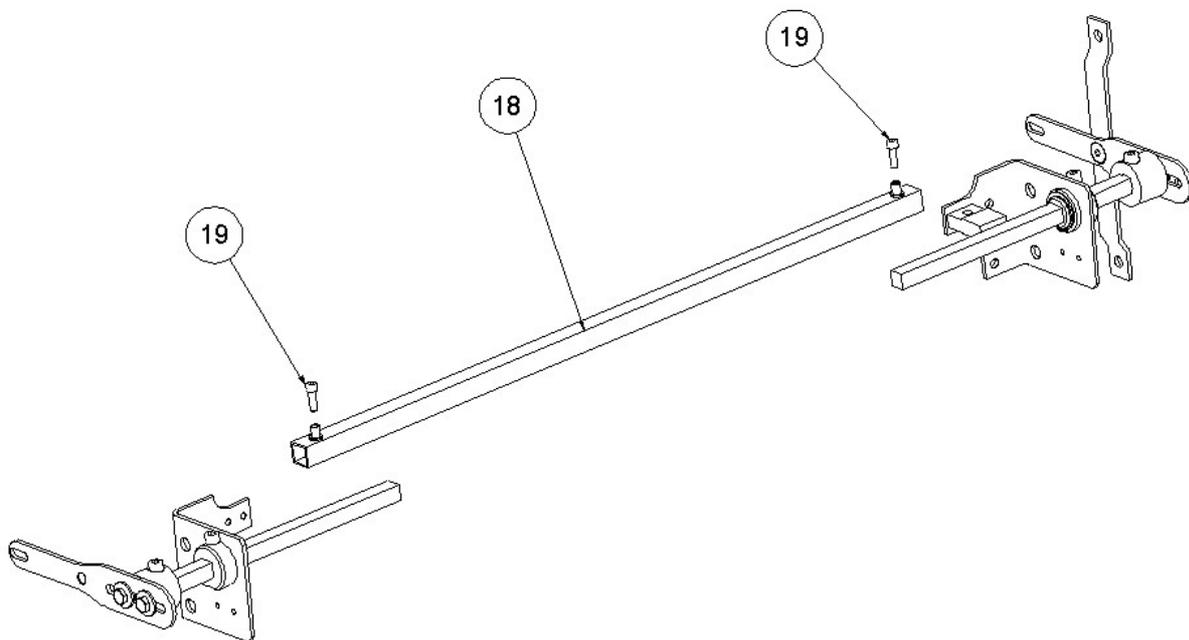

Figure 5
6. DRIVING BAR AXLE PLACING: The joined arms must be introduced in endings of the driving bar axle (18) and must be screwed through M6 x 20 DIN 912 screws (19). The width of the driving bar can be adjusted introducing more or less the arms into the axle – Fig.5 -.